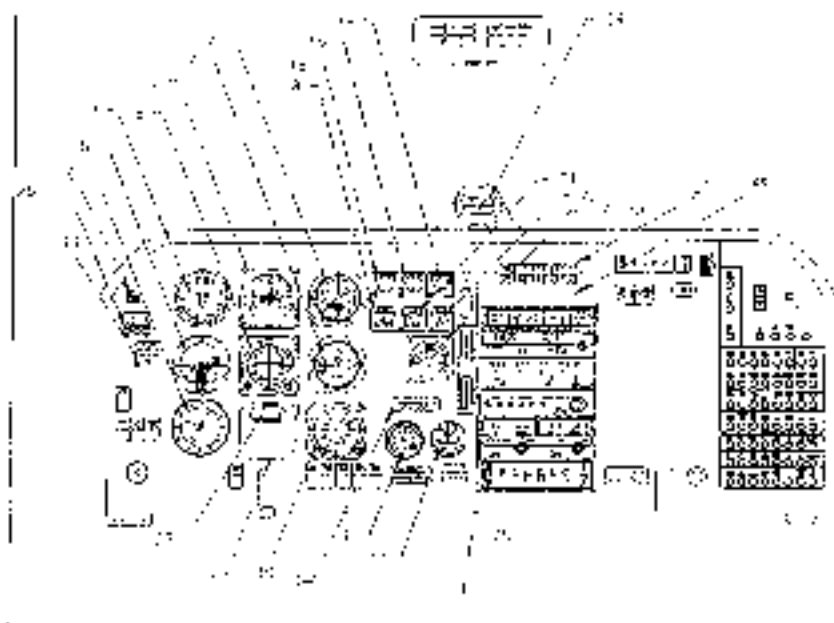

FIGURE 7-1 FLIGHT PANEL (29-0001 THRU 28-0165)
1. **CLOCK** - (SN 29-0001 thru 28-0169) (Refer to Figure 7-1)